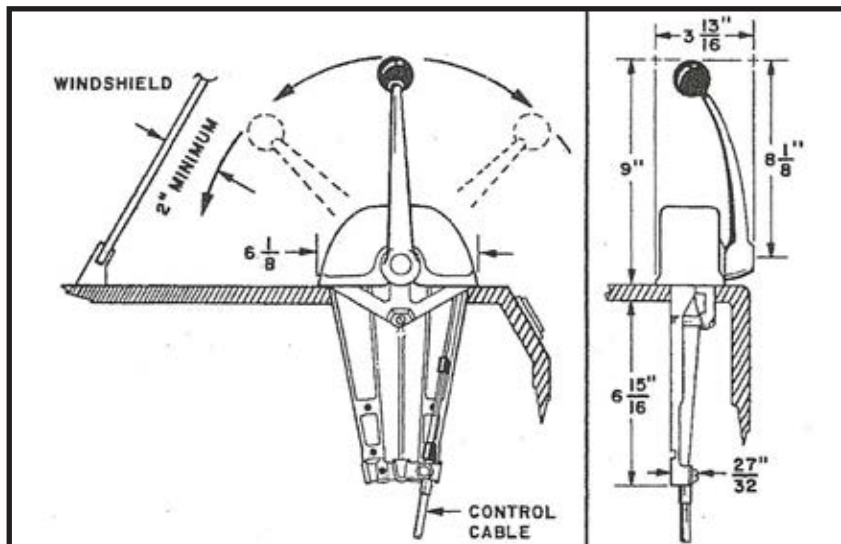

Figure 2.
STEP 1. Using the template provided, determine the proper position for the control head. Clearance must be allowed for full forward and reverse movement of the hand lever. (See Figure 2.)